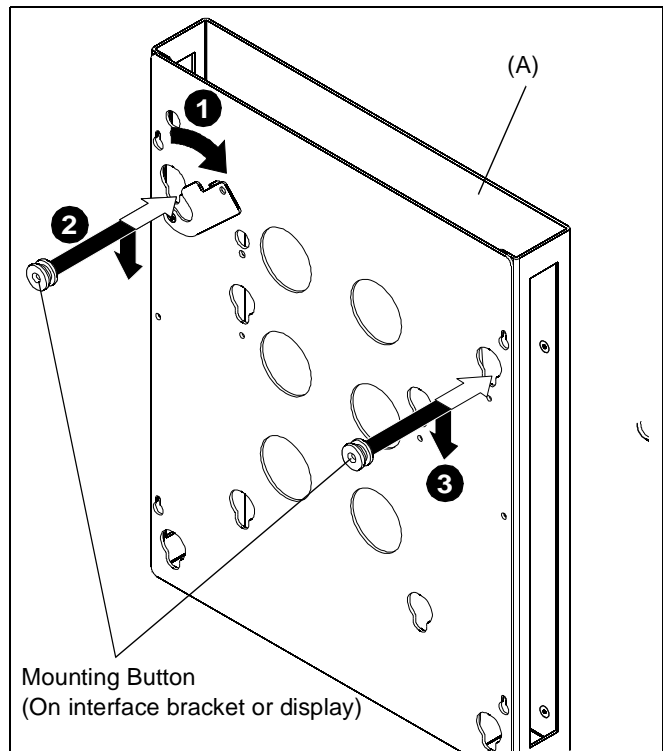

Figure 5
1. Ensure that locking flag is in open position. (See Figure 5)
2. While supporting each side of display, align four mounting buttons on display or interface bracket with four teardrop slots in CPU holder (See Figure 5).
3. Lower display firmly into place. (See Figure 5)